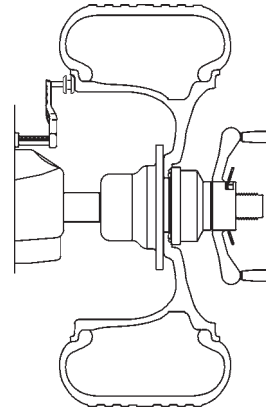

Figure 23a
- Move the rim offset arm to the edge of the rim, touch the pointer to the rim edge as illustrated in Figure 23a and hold steady for about a second. The beeper will sound when the distance and diameter values are calculated and entered. Return the arm to its fully in and down position on the balancer. Do not allow the measurement arm to “dangle” down in front of the balance.